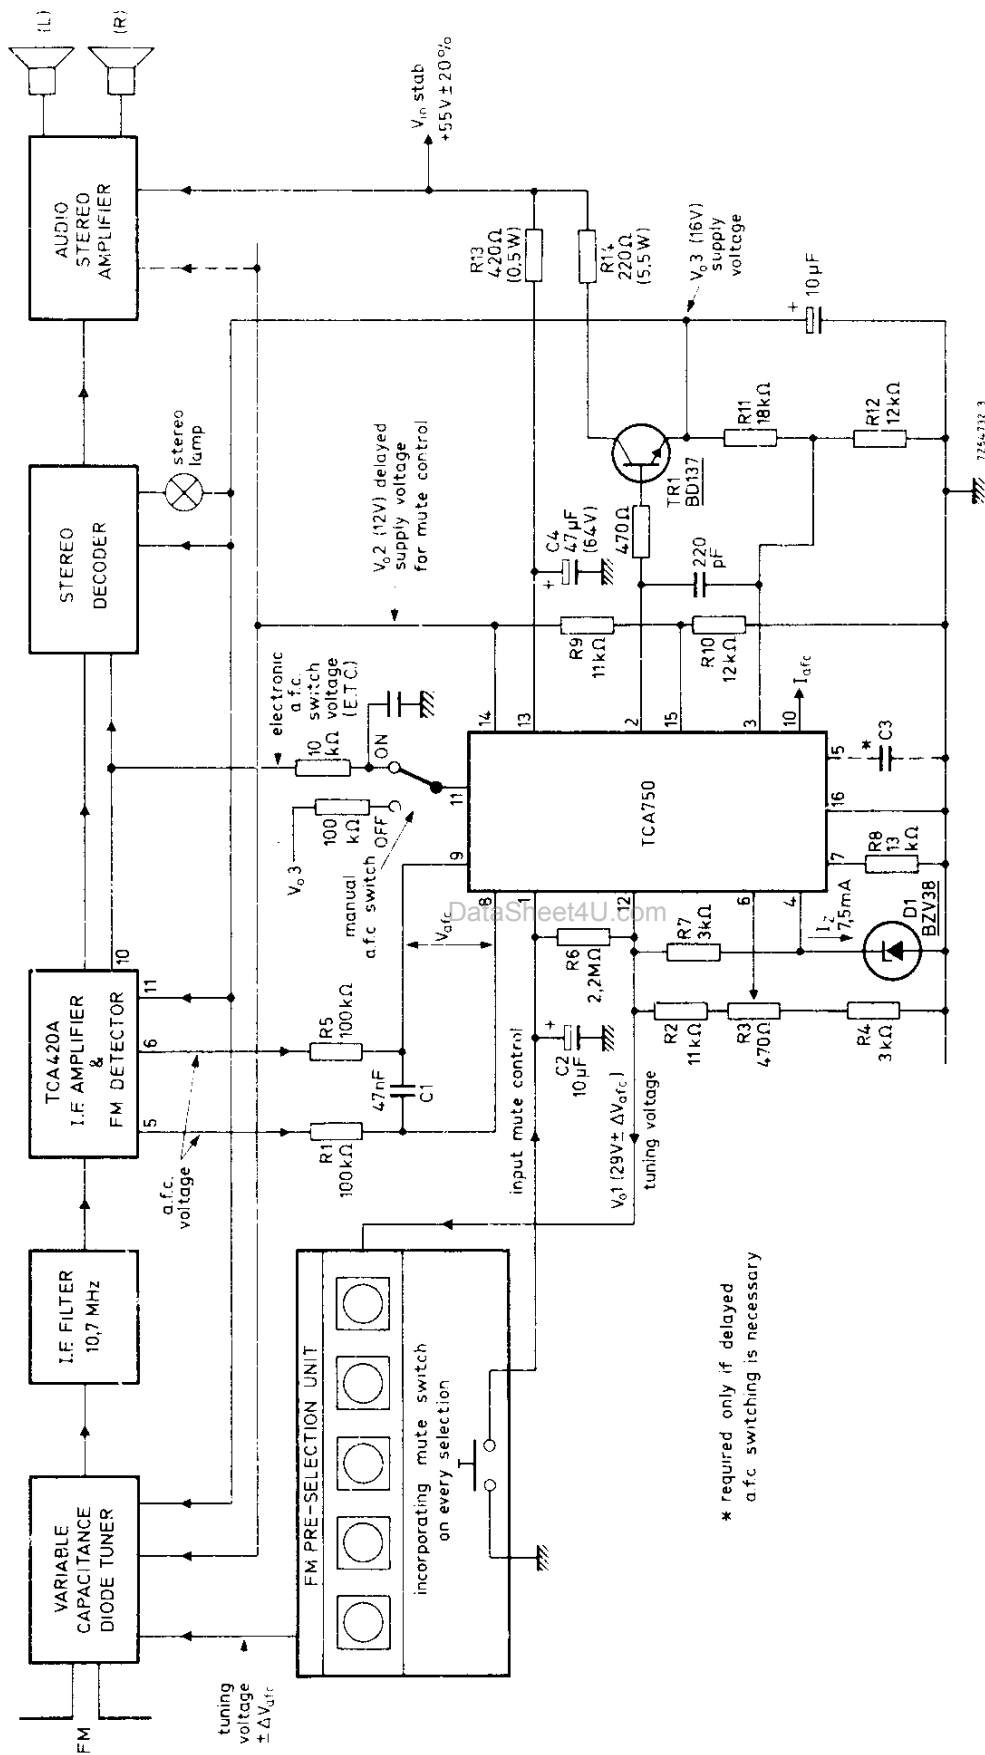

Fig. 8 Hi-fi radio receiver with electronic tuning using TCA750.
4. If a higher level is required from the output of stabilizer 1, the reference diode supply may be obtained from the emitter of a power transistor connected to the output from stabilizer 3 (see Fig. 8). In this case, the current available from stabilizer 1 is increased to 12,5 mA (bleeder current  $I_{RA1} = 2\text{ mA}$ ).